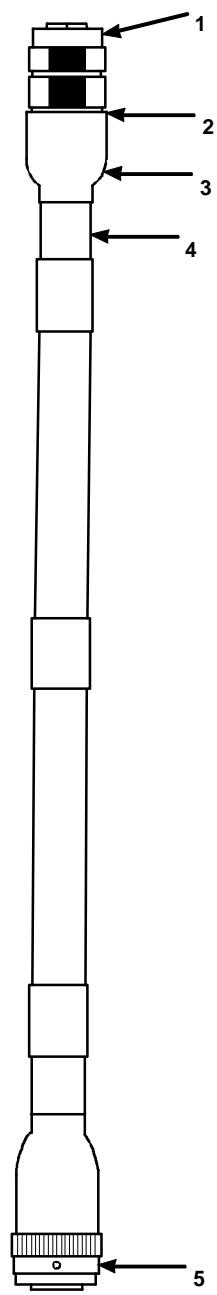

Figure 3-1. Power and Data Cable (0.75-Meter), P/N 12979004
3.2.4 General Repair Requirements. Refer to Figure 3-1. Repair or replace cable connectors as follows:
- n. Using small wire brush, clean sealing compound residue from threads of connector body (1) and backshell (2).
- o. Apply primer to threads of connector body (1) and backshell (2).
- p. Apply sealing compound to threads of connector body (1) and backshell (2).
- q. Screw backshell (2) on connector body (1) and torque to 3.7 in-lb (5 N.m).
- r. Apply S1184 adhesive to inside of boot (3) to bond with cable shield and backshell (2).
- s. Apply 51125 adhesive inside of boot (3) for bonding to cable jacket (4) and backshell (2).
- t. Place boot (3) on backshell (2).
- u. Using heat gun, apply heat uniformly to boot (3) until boot shrinks to form secure seal around backshell (2) and cable (4).
3.2.5 Inspection. Refer to Figure 3-1. Inspect Power and Data Cable (0.75-Meter) as follows: